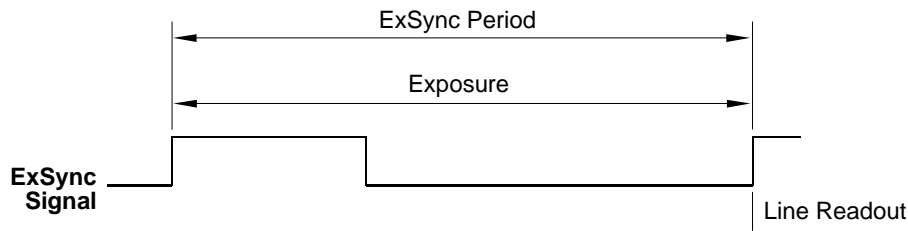

Fig. 27: ExSync Edge Controlled Mode
- In **ExSync edge controlled** mode, line acquisition begins on the rising edge of the ExSync signal. The pixels are exposed and charge is accumulated over the full period of the ExSync signal (rising edge to rising edge). The falling edge of the ExSync signal is irrelevant. The pixel values read out of the sensor on the rising edge of ExSync (see Figure 27).